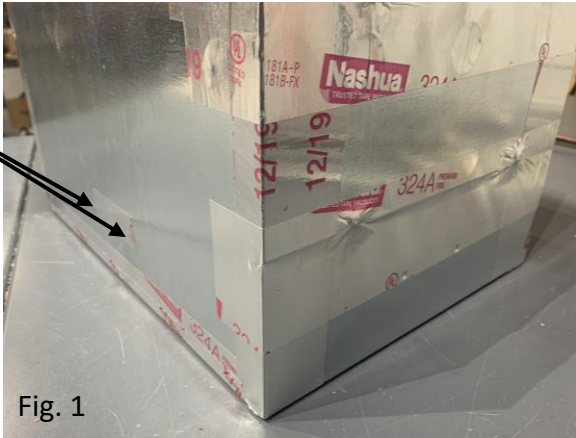

Fig. 1
- Identify hanger bar mounting holes on all sides of the Non-Electrical IC/AT/CP housing. [Fig. 1]